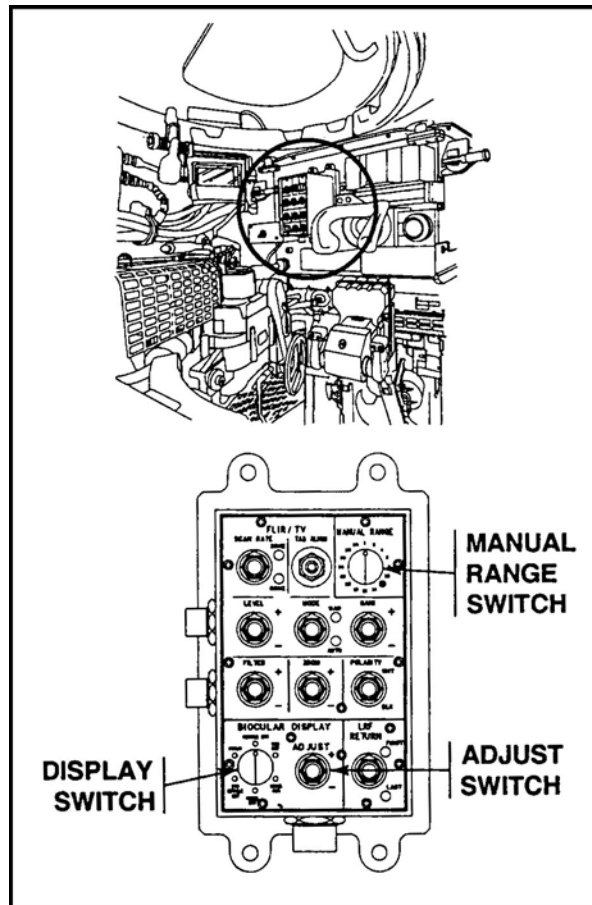

Figure 8. Gunner's sight control panel (GSCP).
2. Adjust the Improved Bradley Acquisition Subsystem (IBAS) using the gunner's sight control panel (GSCP)(Figure 8).